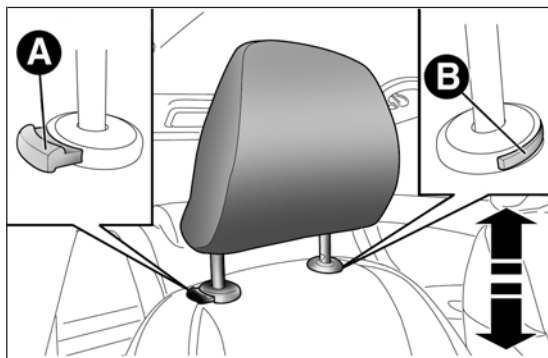

fig. 24
- downwards adjustment: press button A fig. 24 and lower the head restraint.
- press buttons A and B fig. 24, then remove the head restraints by pulling them upwards.